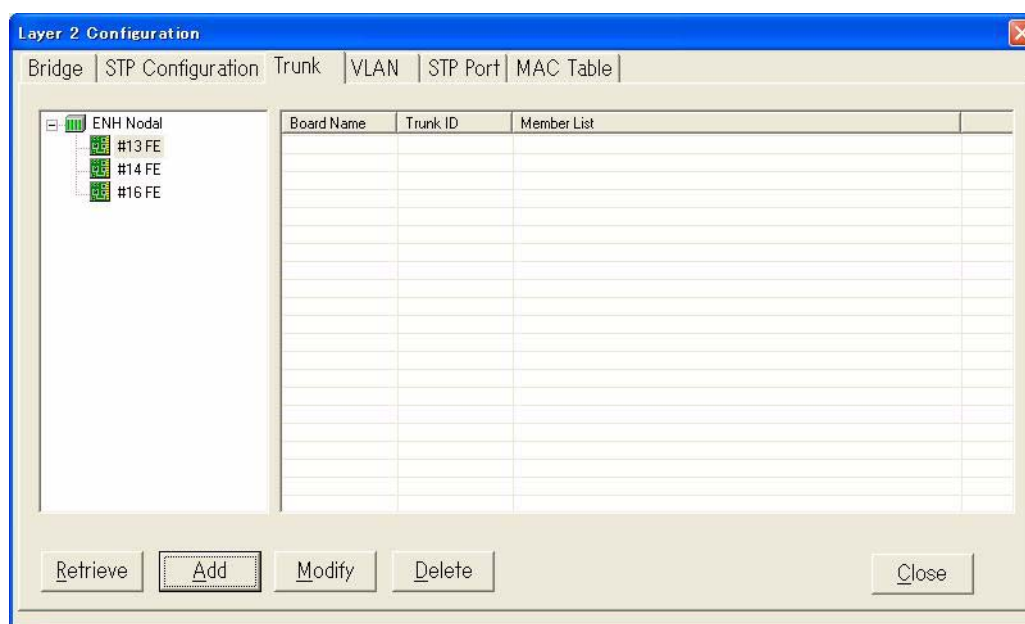

Fig. 4-4-64 Trunk
- 1 See *Fig. 4-4-42*, select **Trunk** attribute page on the top of window. *Fig. 4-4-64* appears.